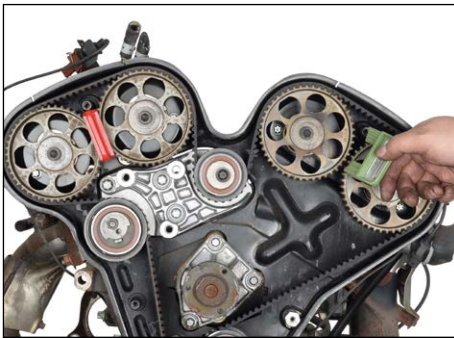
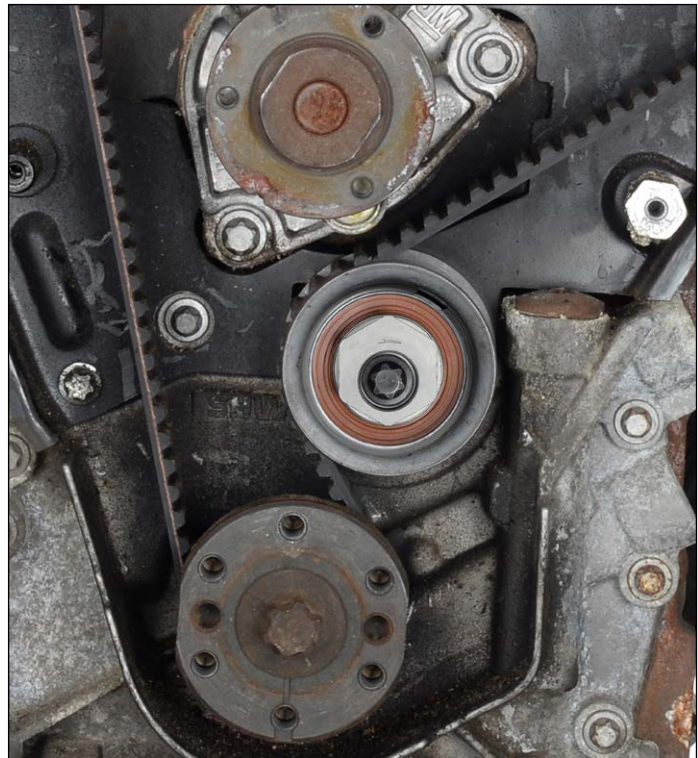
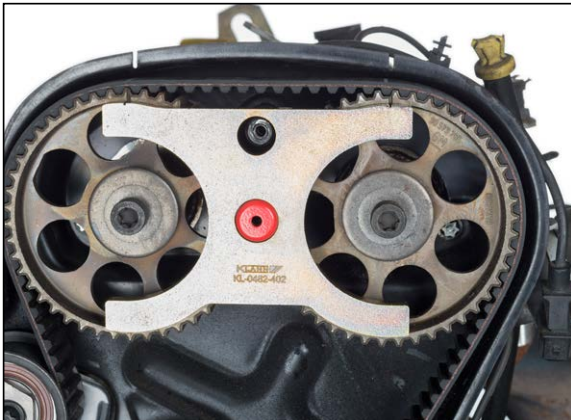

Fig. 8
Fig. 10
Fig. 20
4. Place the retaining tool for camshaft OE (KM-800-2) green with the designation “Top” on top between camshaft gears “3” and “4” (Fig. 8 and 9). If the retaining tool cannot be inserted, then remove the bottom timing belt bend pulley (Fig. 10) and turn it on the cam with chuck key MKM-6038 or water pump pliers until the tool can be inserted. The engine is now fixed at TDC position (Fig. 3).
9. Turn the cam of the lower bend pulley in a counterclockwise direction using chuck key OE (MKM-6038) or water pump pliers (Fig. 10) until the top of the cam is at approx. 12 o'clock position and the markings on the camshaft gears and the inspection gauge OE (KM-800-20) align (Fig. 20). Tighten the lower bend pulley with 40 Nm. Camshaft gears "3" and "4" must be adjusted exactly before camshaft gears "1" and "2" are adjusted.
15. Attach inspection gauge OE (KM-800-20) to camshaft gears “3” and “4.” Markings on the camshaft gears and the inspection gauge OE (KM-800-20) align (Fig. 20). If the markings do not align, adjust again as under point 9.